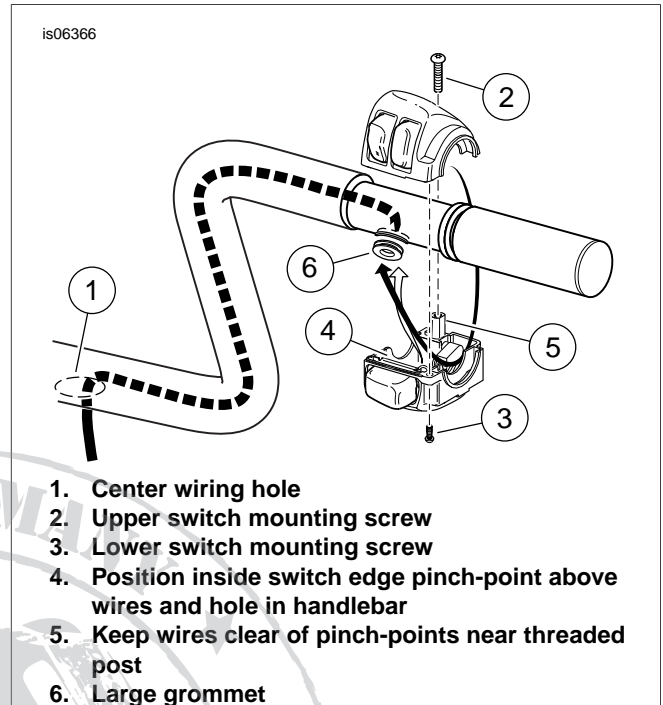

Figure 6. Switch Housing Wire Routing
14. See Figure 6. With the handlebar placed on a smooth, soft surface, grip ends upward, gently feed the right-side switch wire bundle into the large opening on the underside of the new handlebar and toward the large opening in the center of the bar.